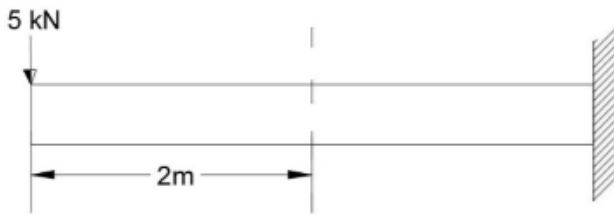

Figure 7a
- 7) A cantilever beam 300mmx400mm in section weighing 7.5 kN/m is subjected to a load of 5 kN as shown in figure 7a. Determine the maximum stress developed at a section 2 m from free end. Sketch the stress distribution. (10)